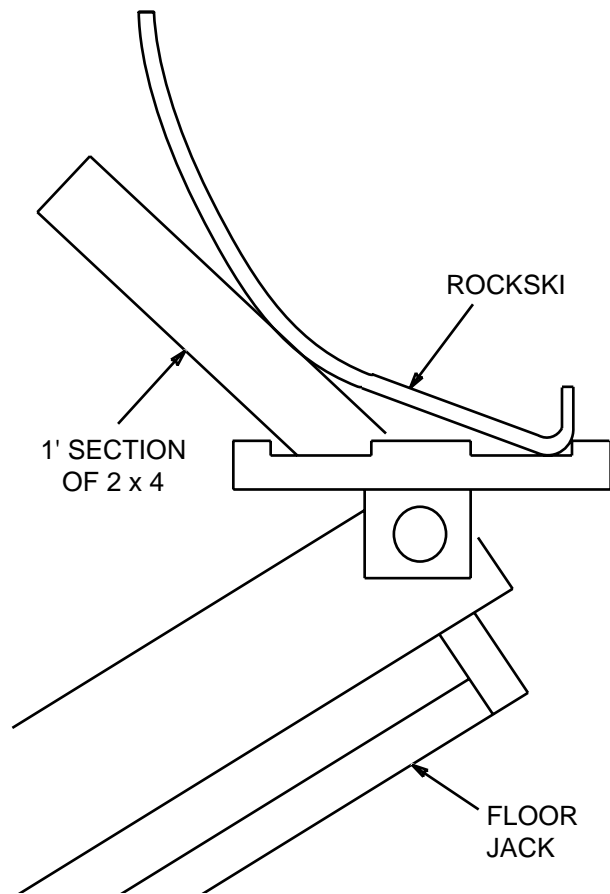

Figure 1
1. Position the RockSki on the jack and support it with the 2 X 4 as shown in Figure 1.
1. Position the RockSki on the jack and support it with the 2x4 as shown in Figure 1.